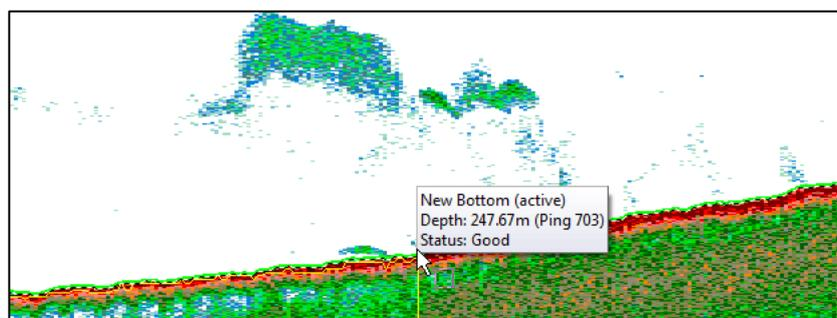

Figure 16: The active *New Bottom* line as a running line.
16. Click **OK** to close the **New Editable Line** dialog box and display *New Bottom* as a green line on the echogram (see Figure 16).